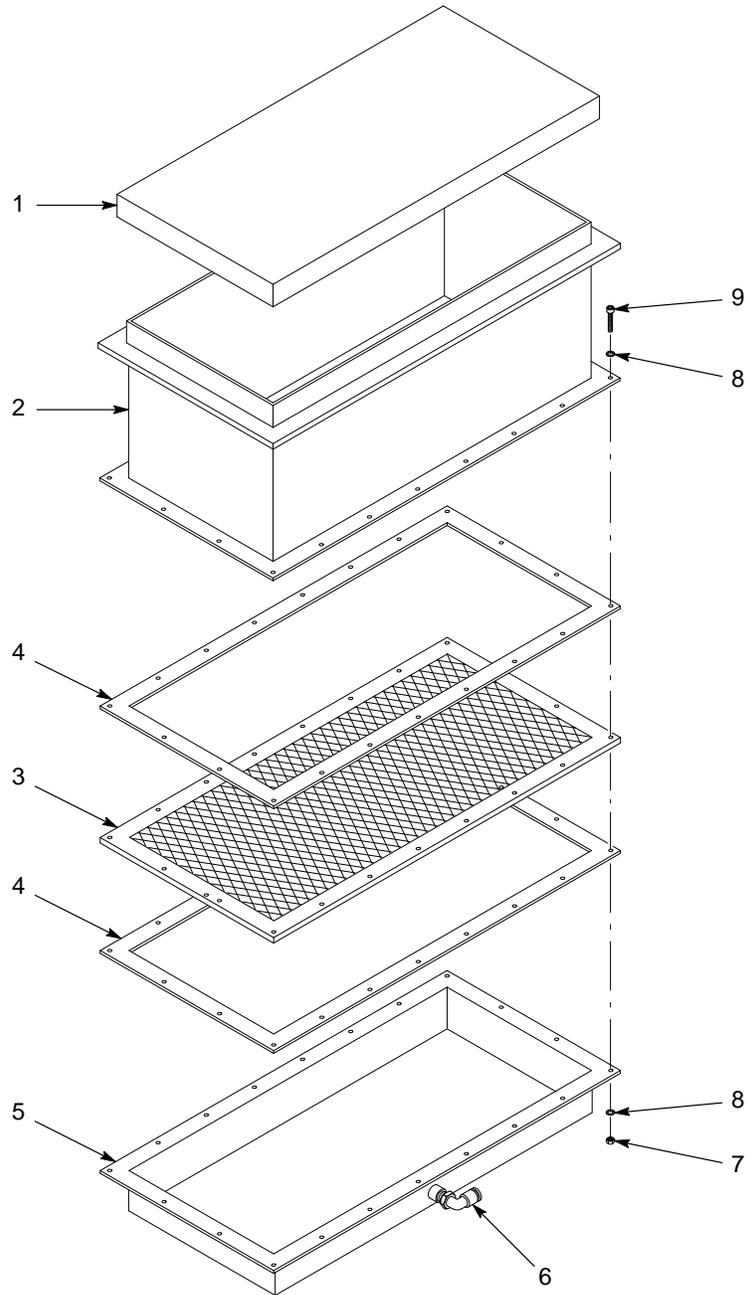

Figure 10-3 Fluidizing Hopper Parts
2. See Figure 10-3. Remove the screws (9), flat washers (8) and nuts (7) securing the body (2) to the base (5). Lift the body off the base.
3. Remove the old fluidizing plate (3) and discard it.
4. Inspect the gaskets (4). Replace the gaskets if they are damaged.
See Figure 10-3.